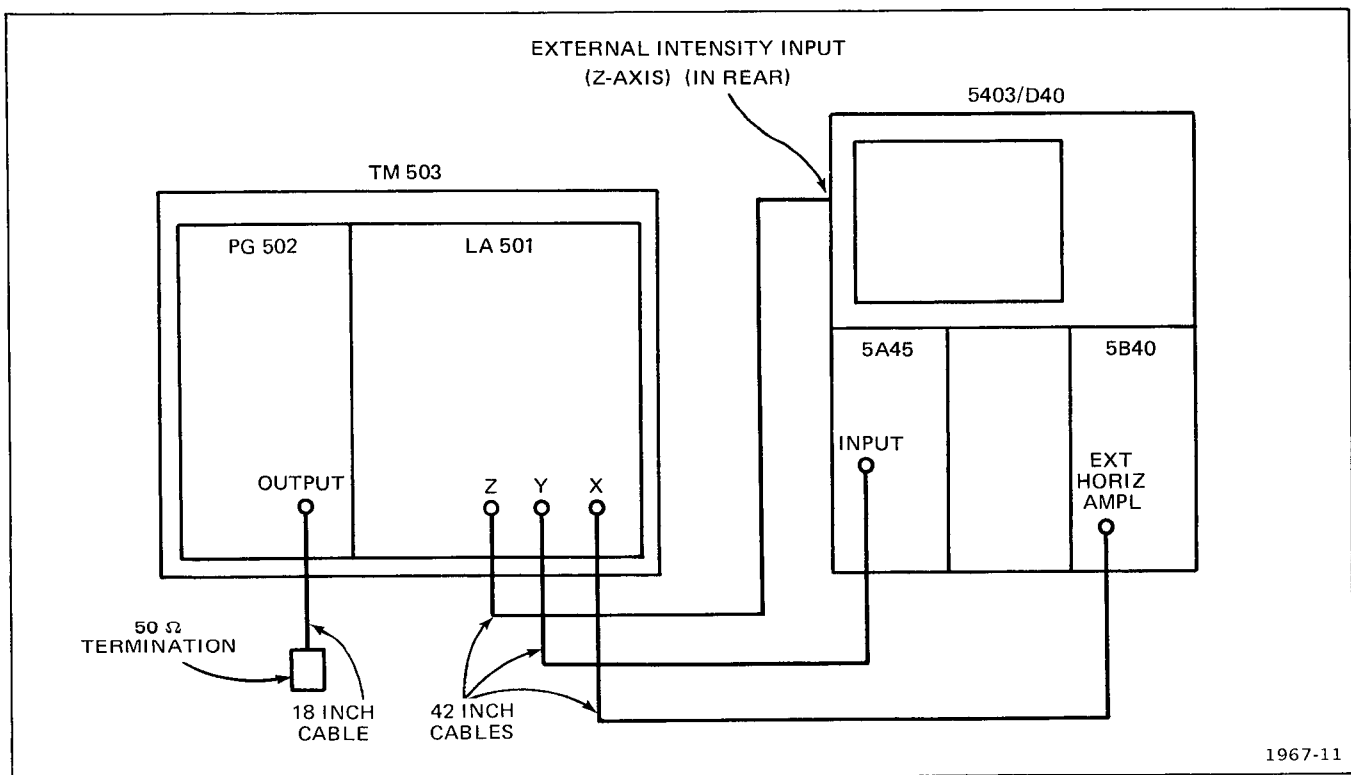

Fig. 1-4. Equipment set up for Functional Check.
2. Install the LA 501 in the 2 right side compartments and the pulse generator in the left compartment of power module (see Figure 1-4).